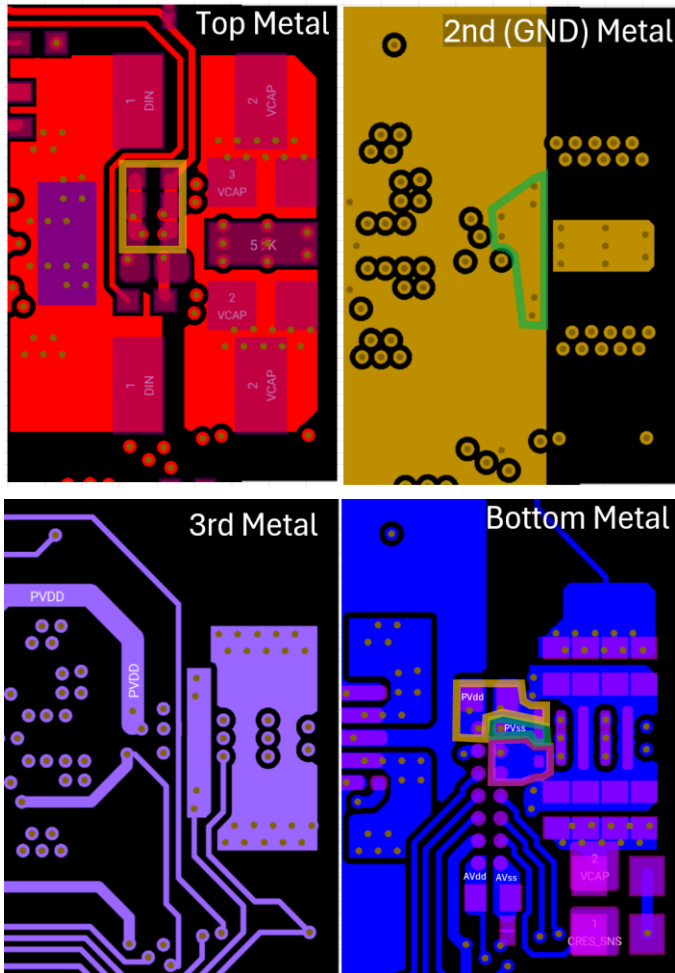

Figure 8: Gate Path from SL2002 Fireout pins to FireFet
4. VDD Power and Ground Routing: In Figure 8, the SL2002 PVss pin is connected to the ground plane with a via directly under its bump, while the SL2002 AVss pin is connected to the ground plane 1.6mm away from its bump in order to stay out of the direct current path between the PVss pin of the board and the ground terminals of the Cres capacitors. The AVdd net is connected to the PVdd net through a 10Ω resistor near to the PVdd pin of the board.